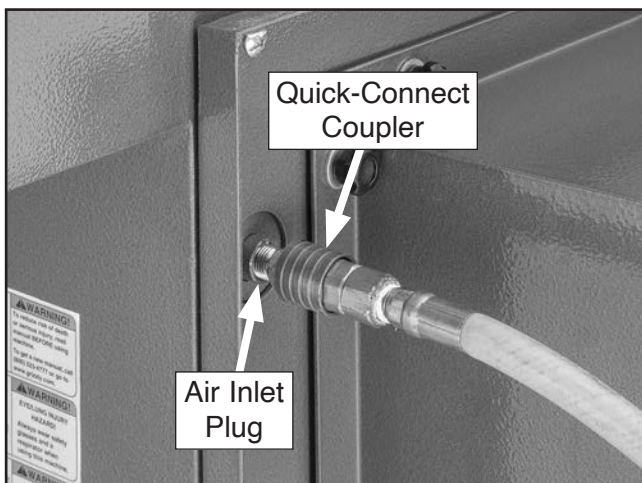

Figure 35. Quick-connect coupler attached to air inlet plug.
3. With sleeve pushed back, push coupler onto downdraft table air inlet plug, then release coupler sleeve to lock it in place (see **Figure 35**).